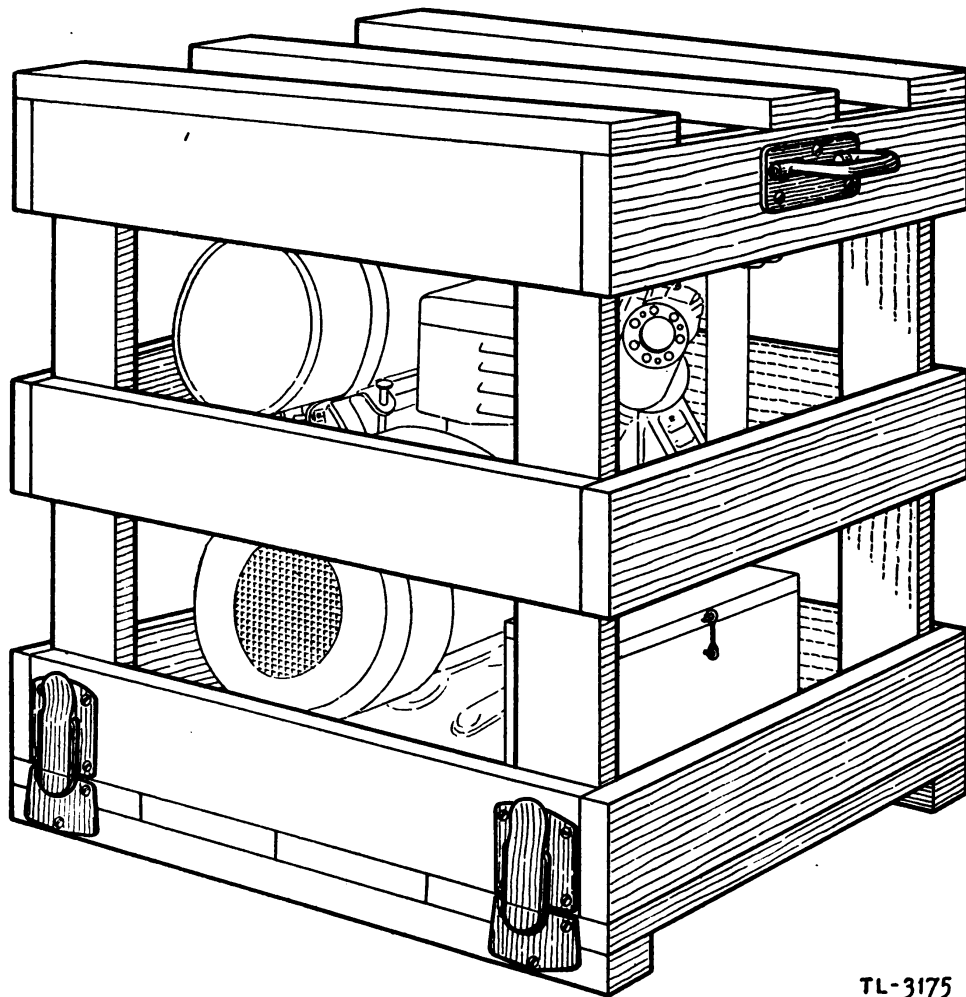

FIGURE 17.—Shipping crate for power unit PE-( )-43.
**6. Removal from service.**—*a. Repacking for transportation in field*.—To repack the set for transportation after it has been in operation in the field, proceed as follows: Open the switches (or trip the circuit-breakers, if used) marked "BAT 1," "BAT 2," and "BAT 3"; remove the leads from the banks of batteries; remove the connecting cord from the power unit and neatly roll it to fit inside the panel case; close the panel case; place the top of the packing crate over the power unit and fasten it by means of the four trunk bolts (fig. 17).